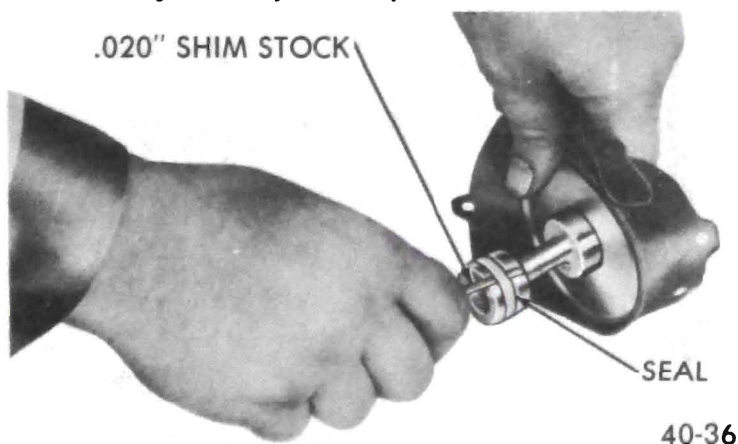

Figure 40-44 - Installing Piston Seal
4. Install new seals using a piece of .020" shim stock. See Figure 40-44. Make sure shim stock has no sharp edges that may cut seal. Do not stretch seal more than is necessary to install. Seals must be installed so they are not twisted.